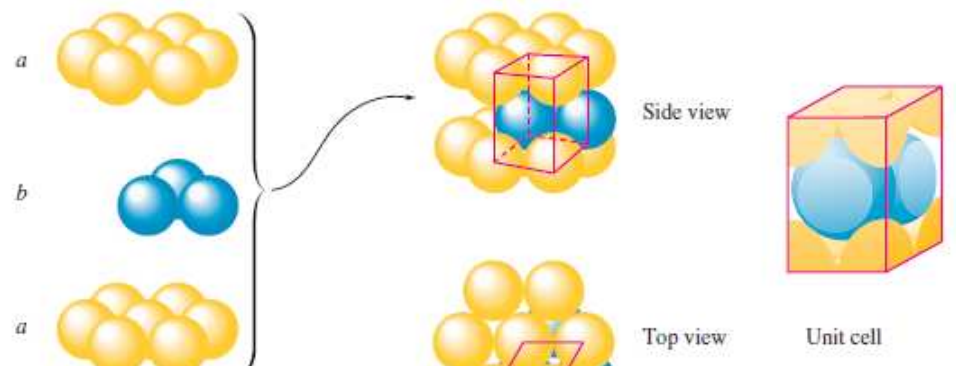

FIGURE 10.14 When spheres are closest packed so that the spheres are stacked in the *aba* arrangement, the unit cell is hexagonal. The unit cell is shown in red.
- see Figure 10.14; hexagonal closest packed (hcp) structure